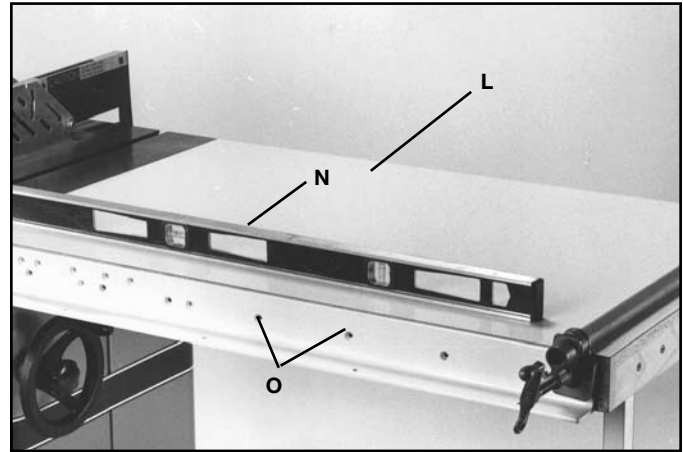

FIG. 20
12. Place table assembly (L) in position between the front and rear rail, as shown in Fig. 20. Make sure end of table is flush against saw table and using a bar clamp, snug up ends of rails to hold table in position. Using a straight edge, (N), make certain table is in the same plane and level with saw table. Adjust leveling screws in bottom of support legs to accomplish this. When you are certain table is level and in the same plane as the saw table, tighten bar clamp to hold everything in position. Then drill 1/4" through holes through the front and rear table frame using holes (O) in the rail as a template. The number of holes to drill will depend on the length of the rails.